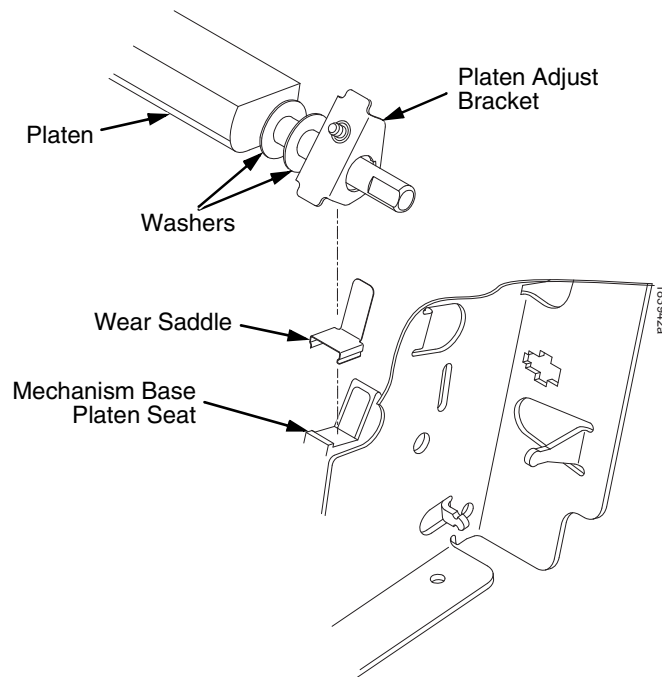

Figure 34. Positioning the Platen Adjust Brackets
4. Make sure the two wear saddles are set flush into the corners of the mechanism base platen seat. (See Figure 34 below.)
8. Insert the shorter platen shaft through the left platen adjust bracket and through the opening in the left side plate. Rotate the longer shaft into the opening in the right side plate and position the platen adjust brackets as shown in Figure 34.